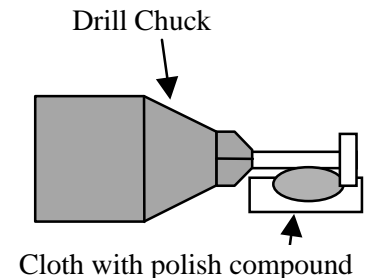

FIGURE 15
7. Touch the cloth to the portion of the axle on which the wheel will spin (see Figure 15). Polish until the axle has a shiny finish (about 30 seconds). Make sure to polish the inside portion of the axle head.